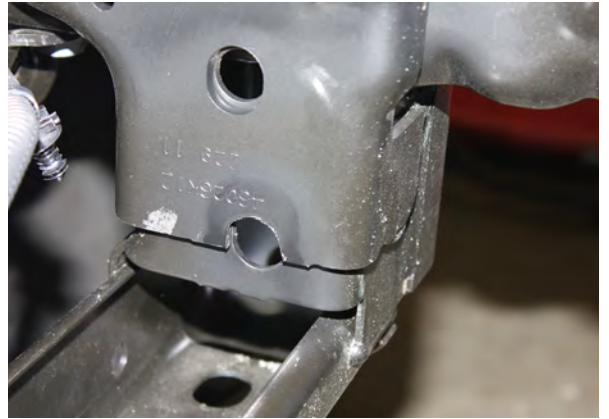

Figure 9
8. Use a grinder or file to enlarge the slot in the factory canister bracket to match the frame hole behind it, about  $\frac{5}{8}$ " diameter. Figure 8. Touch up raw edge with paint to prevent rust. Figure 9.